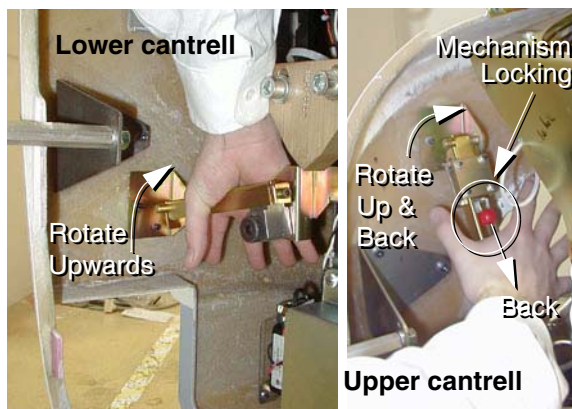

Figure A-8 Releasing cover brackets
- 1.) Using steady but firm pressure, lift each of the lower cantrell brackets from their associated retainers. See Figure A-8.